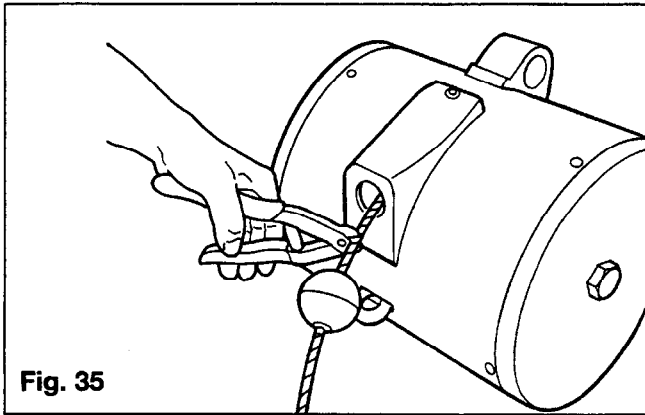

Fig. 35
3. Cut load wire rope above ball stop (if used) (Figure 35).